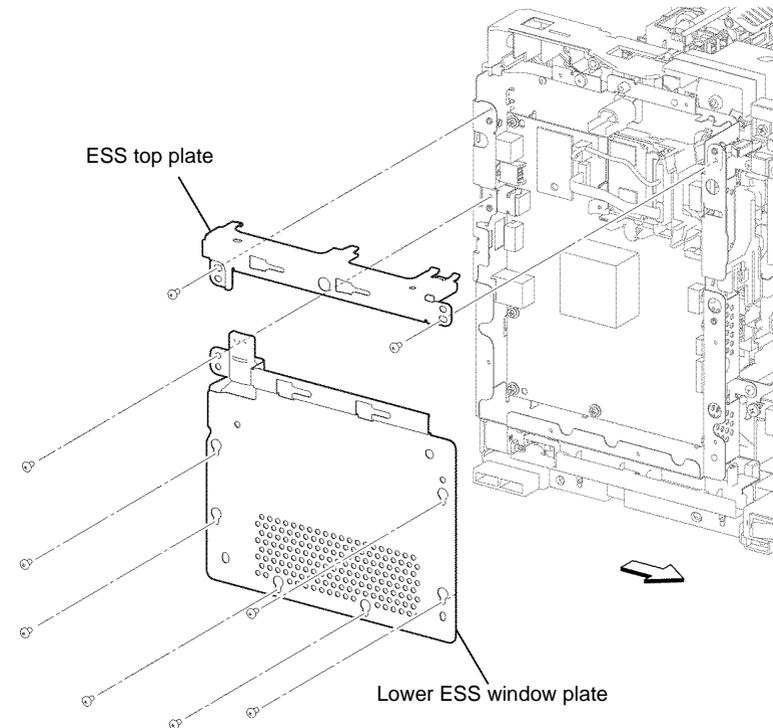

Figure 2 ESS top and lower plate removal
11. Remove seven screws (silver, M3, 6mm), then remove the lower ESS window plate with WIFI release lever, Figure 2.
12. Remove two screws (silver, M3, 6mm), then remove the ESS top plate, Figure 2.